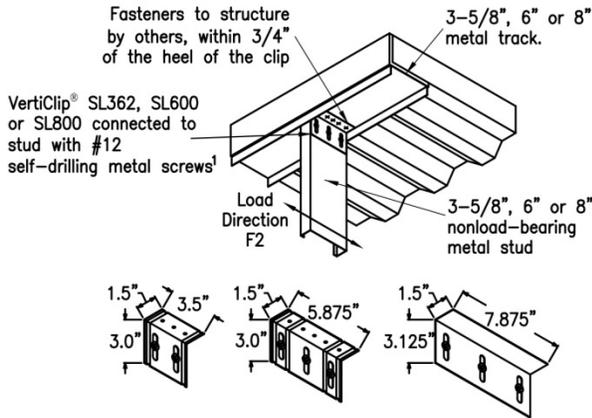

Figure 1 – VertiClip® SL362/400, SL600 and SL800
**3.1.2 VertiClip® SL:** VertiClip® SL362, 600 and 800 are L-shaped angles that connect 35/8, 6 and 8 inch deep (92, 152, and 203 mm) exterior curtain wall steel studs, respectively, at head of wall to the building's structural frame while allowing for a maximum of 11/2 inches (38.1 mm) of vertical movement between exterior wall elements and the primary structure. The minimum base-metal thickness of the clips is 0.0677 inch (1.7 mm). The long leg of the VertiClip SL362, SL600 and SL800 connectors, which is fastened to the curtain wall stud, has two or three vertical slots, each 3/8 inch (9.5 mm) wide by 17/8 inches (47.6 mm) long. Refer to Figure 1 for overall dimensions of each VertiClip SL connector and a typical installation detail.
1Refer to Figures 1 through 11 for direction of load.